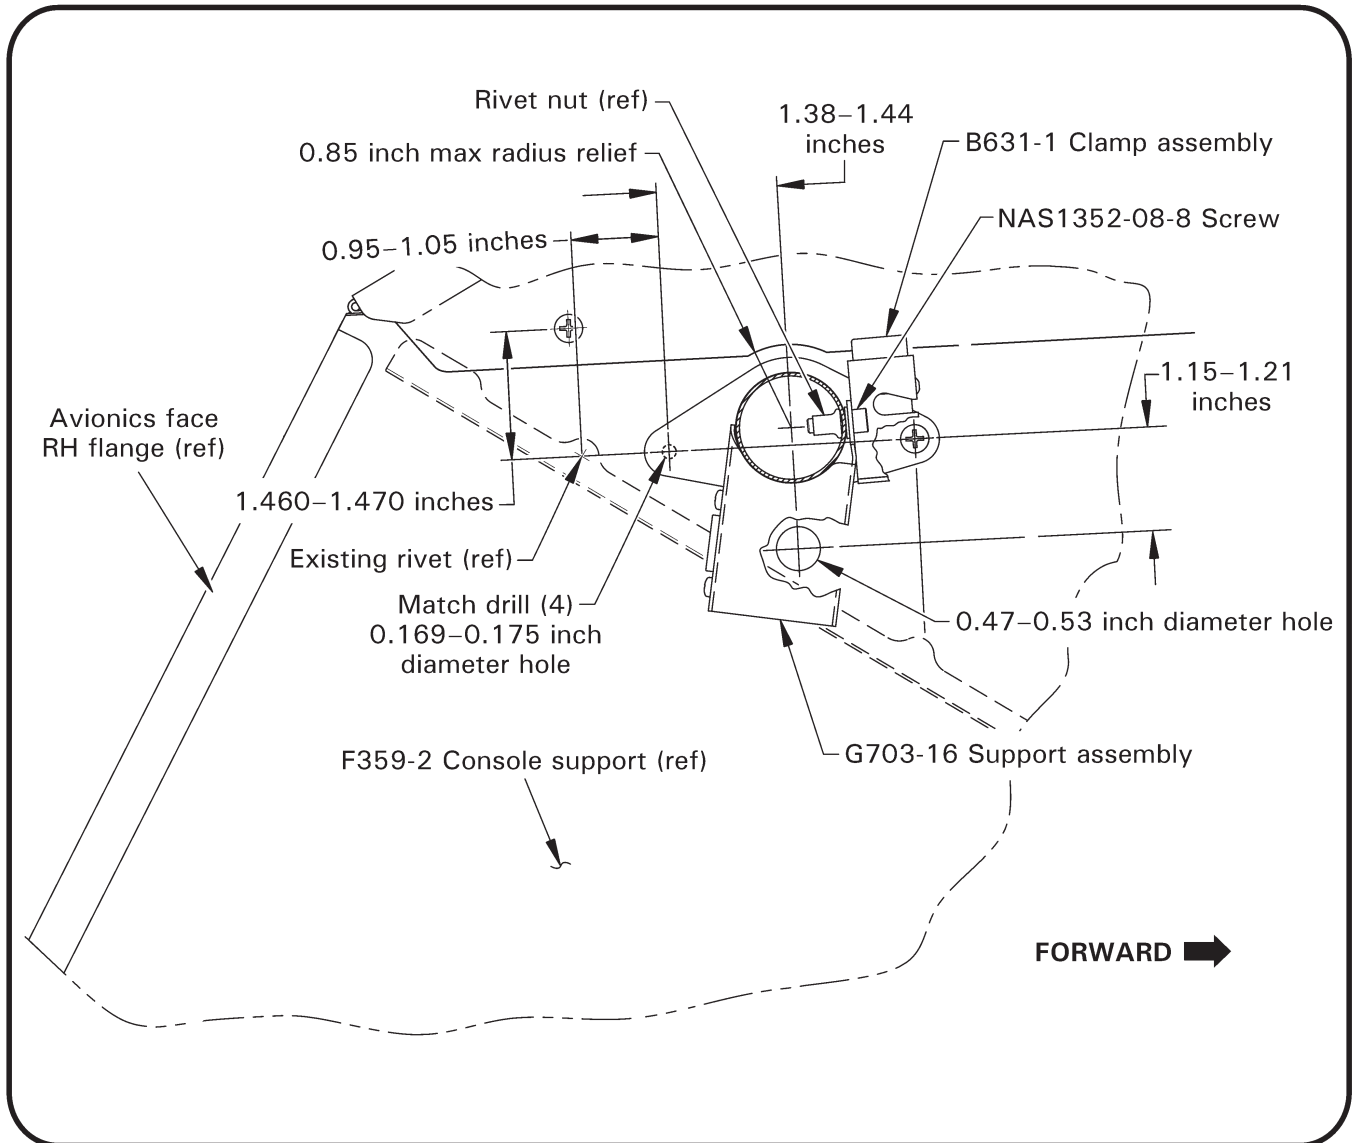
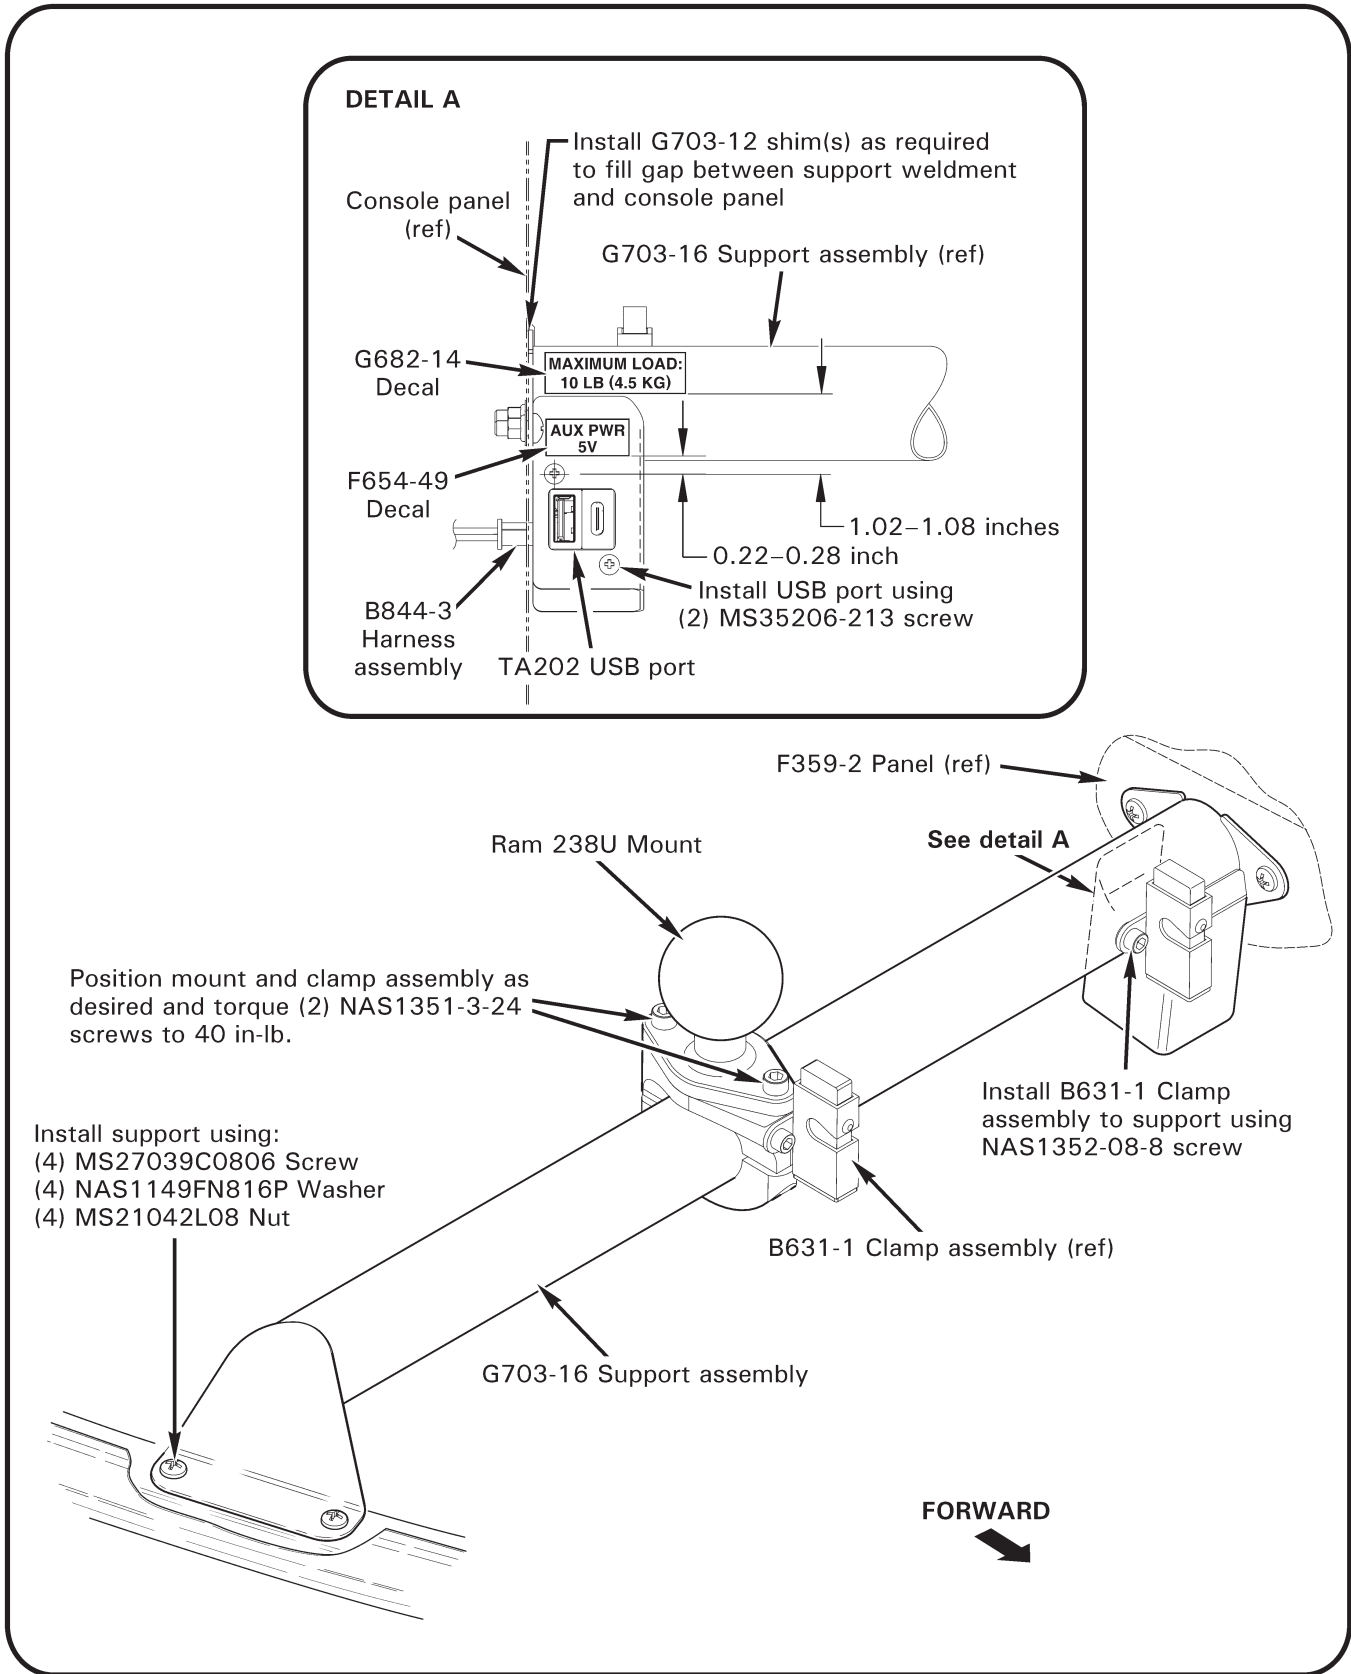

FIGURE 2 RH Support assembly installation shown
FIGURE 4 RH Completed support assembly installation
6. Refer to Figure 2. Position inboard flange of G703 support assembly adjacent to existing rivet head as shown; temporarily secure support assembly. Horizontally level $\pm 1^\circ$ and perpendicular to F359 console-support panel in horizontal plane $\pm 1^\circ$. Verify potential match-drilled holes at support's inboard flange will not damage edge, or flange of any installed internal stiffener; adjust support location as required within stated limits. Check leveling and adequate clearance on reverse side prior to drilling. Subsequent holes are based on accurately locating support assembly installation holes. Using a drill stop, progressively match drill and install a cleco in (4) 0.169–0.175 inch diameter holes, two places per flange. Remove clecos and support assembly.
7. Lay out location for 0.5 inch diameter hole as shown in Figure 2. Verify adequate clearance on reverse side; using a drill stop drill 0.5 inch diameter hole on panel.
12. Refer to Figure 4, Detail A. Install TA202 USB port in provided location at inboard end of G703 support and secure with (2) MS35206-213 screws. Affix F654-49 "AUX PWR 5V" decal on flat surface of support above USB ports, and affix G682-14 "MAXIMUM LOAD: 10 LB (4.5 KG)" decal on tube immediately above USB ports.
13. Refer to Figure 4. Install B631-1 clamp assembly, push button pointing up, on inboard end of G703 support and secure at rivet nut (see Figure 2) using a NAS1352-08-8 screw.
14. Refer to Figure 4. Install G703 support assembly in helicopter with (4) MS27039C0806 screws, (4) NAS1149FN816P washers, and (4) MS21042L08 nuts finger tight. Tighten both outboard screws. As required to fill gap, install (3) G703-12 shims maximum between support assembly and F359 panel, use longer screws as required. Tighten both inboard screws.
17. Refer to Figure 4. Assemble RAM238U ball & (attached) B630-1 clamp assembly on G703 support with push button on forward side and pointing up. Position clamp & ball as desired and torque (2) NAS1351-3-24 screws to 40 in-lb.